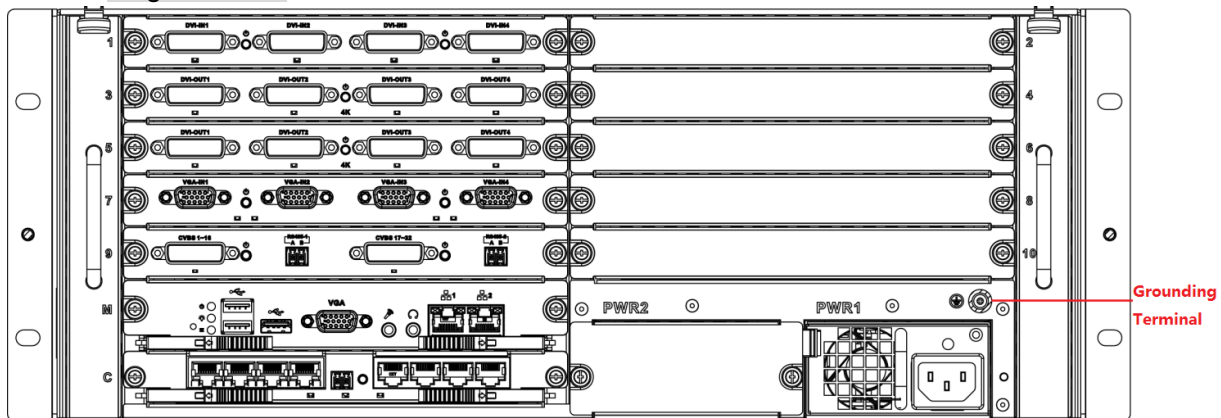

Figure 2-6
Step 7 Ground terminal of Video Matrix Platform shall realize reliable grounding, as shown in Figure 2-6.